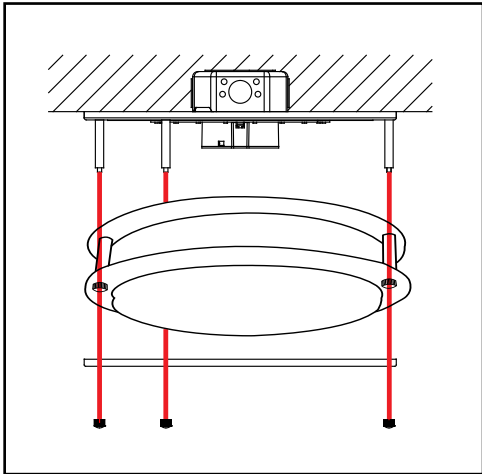

Figure 4
5. Mount the diffuser and twist into place using the cover ring and fix it with the 3 nuts includes. (see figure 4)